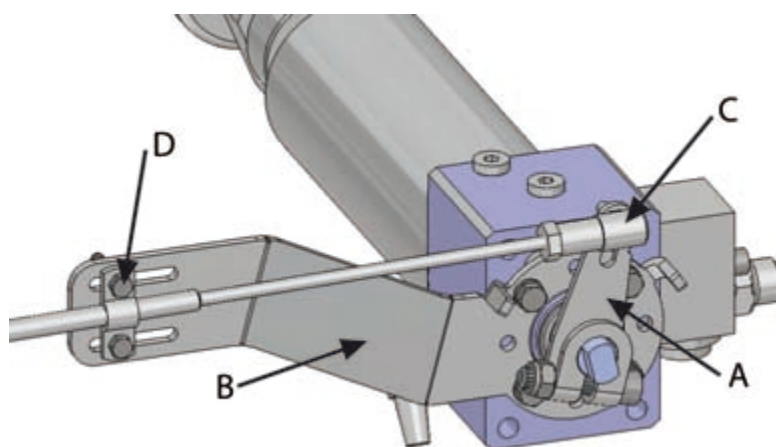

Figure 30. Hydraulic cylinder
The control cylinder of the reversing deflector is used with the lever (figure 30, point A) that is at the end of the cylinder. The lever has a cable terminal when it is delivered from the factory. However, the cable's inlet direction can be different than the standard direction of the cable support (figure 30, point B). You can turn the cable support plate to point in the desired direction in accordance with the cable's inlet direction.
1. If the control cable is attached, detach the end of the cable (figure 30, point C) from the cylinder's operating lever and detach the cable fastener from the support plate (figure 30, point D).